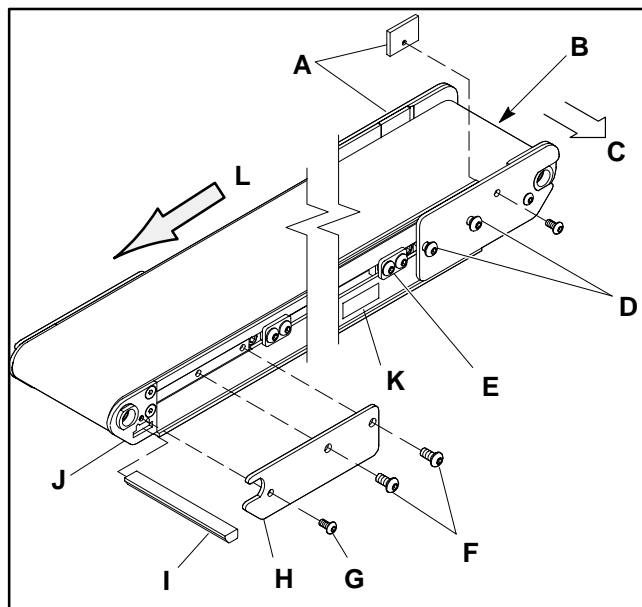

Figure 18
1. If you are working on a high-side conveyor, remove filler plates (A of Figure 18).
2. If engaged, loosen the belt tracking cam assemblies (E) on both sides of the tensioning end (B), identified with a label (K), and slide them toward the middle of the conveyor.
3. Loosen the tail cover plate screws (D) on both sides of the tensioning end of the conveyor.
4. Position the tensioning end (B) of conveyor by pushing it back into the conveyor frame using the heel of your hand. This loosens the belt sufficiently for removal.
5. Find the bottom wiper (I) at the discharge end of the conveyor. Remove the tail cover plate screws (F and G) on one side of the conveyor. Remove the tail cover plate (H) and slide out the bottom wiper (I) through hole in the tail plate (J).
6. Remove the old belt by sliding it sideways (C) from the conveyor.
3. If you are working on a high-side conveyor, remove filler plates (A of Figure 18).
4. If engaged, loosen the belt tracking cam assemblies (E) on both sides of the tensioning end (B), identified with
- Find and remove the bottom wiper (I of Figure 18) at the discharge end of the conveyor. Remove the tail cover plate screws (F and G) on one side of the conveyor. Remove the tail cover plate (H) and slide out the bottom wiper (I) through hole in the tail plate (J).
3. Re-install bottom wiper (I of Figure 18) and the tail cover plate (H).
4. Make sure all the hardware you removed or loosened is fully tightened, except the tail cover plate screws (F) on the tensioning end of the conveyor.
6. If you are working on a high-side conveyor, replace filler plates (A of Figure 18).
7. While holding the pinion (AA) in the tensioned position, tighten the cover plate screws (Z) on both sides of the conveyor. Torque screws to approximately 18 in/lb (2.03 Nm).
8. If you are working on a high side conveyor, replace the filler plates. Refer to Figure 18 under the “Belt Removal for Conveyor Only (No Stands or Gearmotor Mounting Package)” on page 11.